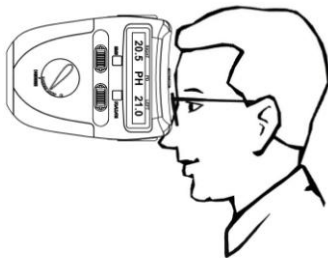

Figure 7
- 1) Press the function switch(5), LCD(3) screen should display the “PH” sign , which presents changing to the pupil height distance measurement mode.
- 2) Turn the Focal Distance Adjustment Knob(8) to the 30cm position. Reverse the nose support(2) and insert it into the plastic shell.
- 3) Taking the left eye measurement as an example. Firstly erect the pupilometer. Then hold underneath it with the right hand, put either the forefinger or middle finger on the PD Adjustment Slide (left)(7), and put the left hand above the device to make it steady, as shown in Figure 7